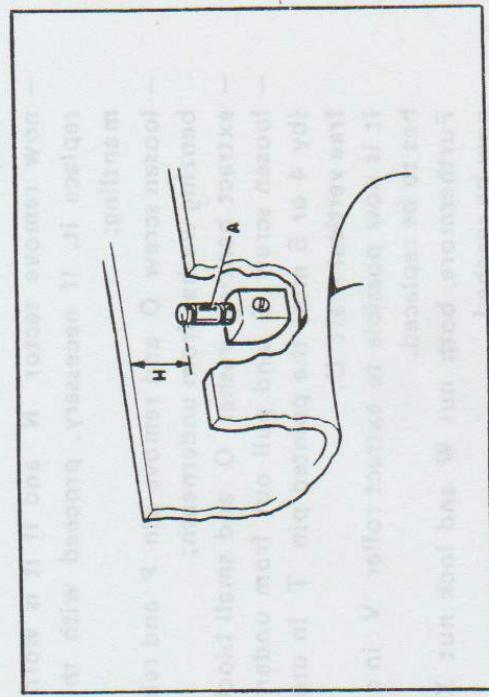

Fig. 29
- measure distance **H** (fig. 29) between upper parts of pin **A** and upper edge of machine;